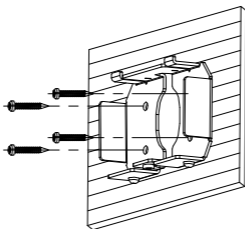

Figure 2-7 Install the Bracket Seat
- 3) Fix the bracket seat on the wall with four PA4×25 screws as shown in Figure 2-7.